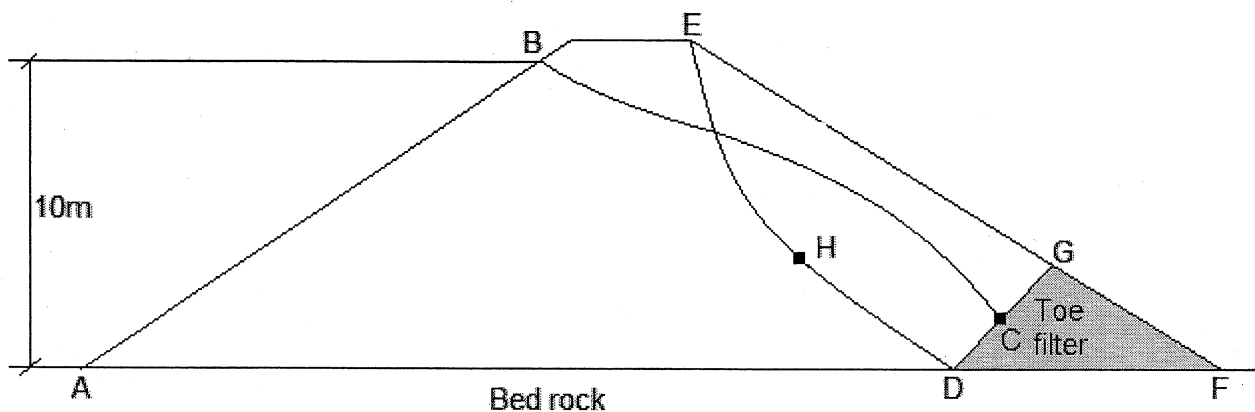

Figure 4
4. Figure 4 shows a homogeneous earth embankment dam through which uniform water seepage occurs. It is founded on impervious bedrock. The phreatic surface at full supply level of 10m is indicated by line BC. It intercepts the toe filter at point C. Point C is located 1.7m above datum AF.